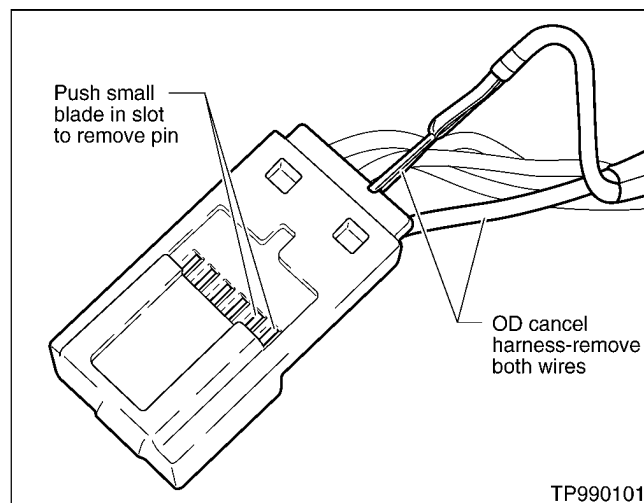

Figure 5.
11. Remove the two terminal pins for the OD cancel switch from the connector (Figure 5).